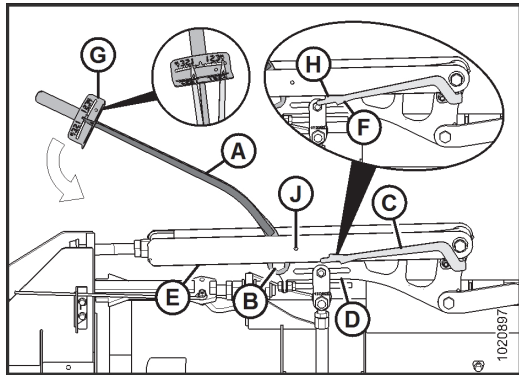

Figure 9: Wing Balance Linkage, Wings Set too Heavy – Left Side Shown, Right Opposite
6. Move the wing downward with torque wrench (A) until the pointer's upper alignment tab (H) lines up with the lower edge of the top-link (E). Refer to Figure 9. Observe the indicator reading (G) on the torque wrench and record it.